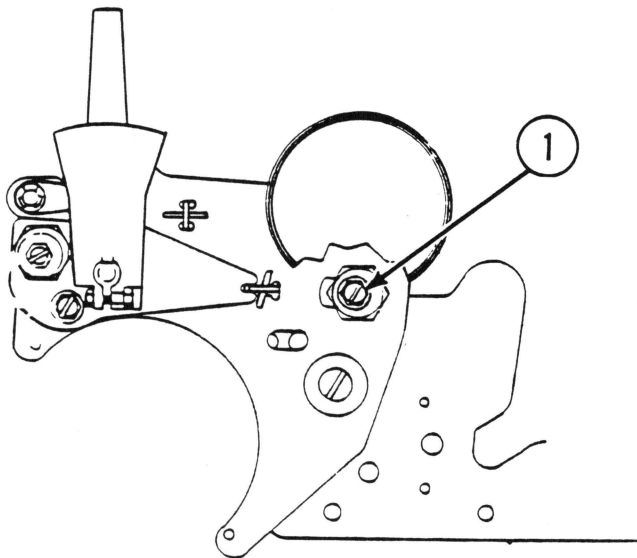

FIGURE 5
8. Repeat steps 6-7 for the left side of the platen. (See Figure 5, #1.)